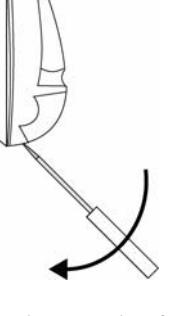

Fig. 1 Open the Housing
- Insert a small flat-blade screwdriver at the tab on the bottom of the unit. The screwdriver will enter the slot at about a 45° angle. Press downward on the handle of the screwdriver until the latch holding the cover to the housing base releases (Fig. 1).
- Place a selection jumper on the appropriate frequency band selection pins (Fig. 1).